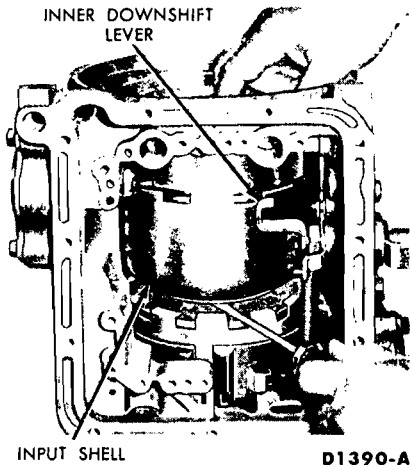
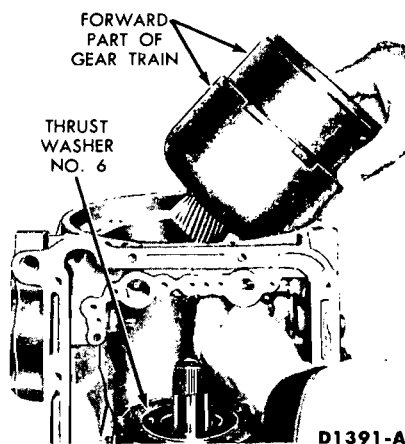

FIG. 45—Lifting Input Shell and Gear Train
FIG. 46—Removing or Installing Forward Part of Gear Train
5. Using a screwdriver between the input shell and rear planet carrier (Fig. 45) lift the input shell upward and remove the forward part of the gear train as an assembly (Fig. 46).